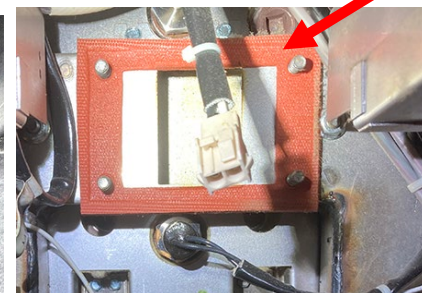

Figure 15
17. Remove the blower exposing the gasket (see Figure 15). Remove the gasket (see Figure 15).